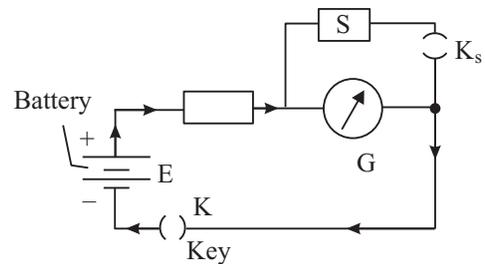

Fig. 29.1
For determination of galvanometer resistance G the circuit is connected as shown in Fig. 29.1 below.
Another important constant of a Galvanometer is  $I_g$ , **the full scale deflection current.**  $I_g$  is that much current- which deflects the Galvanometer pointer from O to maximum deflection on its scale conversion of a Galvanometer into a voltmeter or an ammeter we must know  $I_g$  also. To find the value of  $I_g$  again refer to Fig. 29.1. Let the EMF of the battery be E and the value of the resistance connected in series with the Galvanometer and battery be R. Then, the current  $I$  flow through the galvanometer which produces a deflection  $\theta$  in it, is given
- (iv) Place the equipment as shown in Fig. 29.1 and connect them with pieces of DCC wire whose ends have been properly cleaned with sand paper. Take out 5 k ohm key from the resistance box  $R$  and insert key  $K$ . Adjust  $R$  so that the deflection in  $G$  is more than 20 (70% of number of divisions in the galvanometer scale) and divisible by 2, say 22.